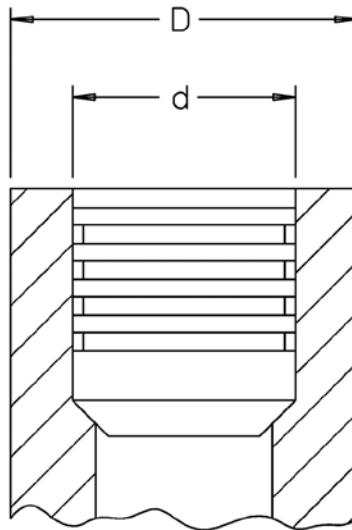
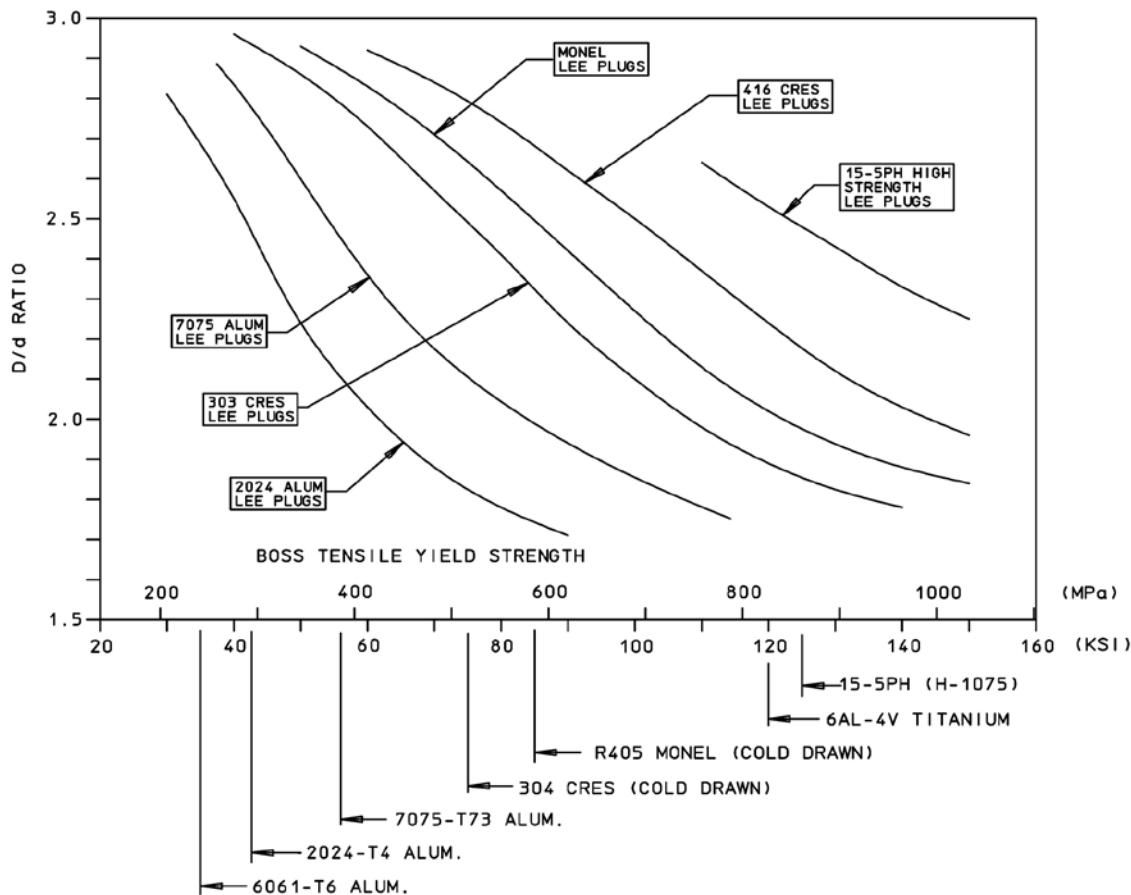
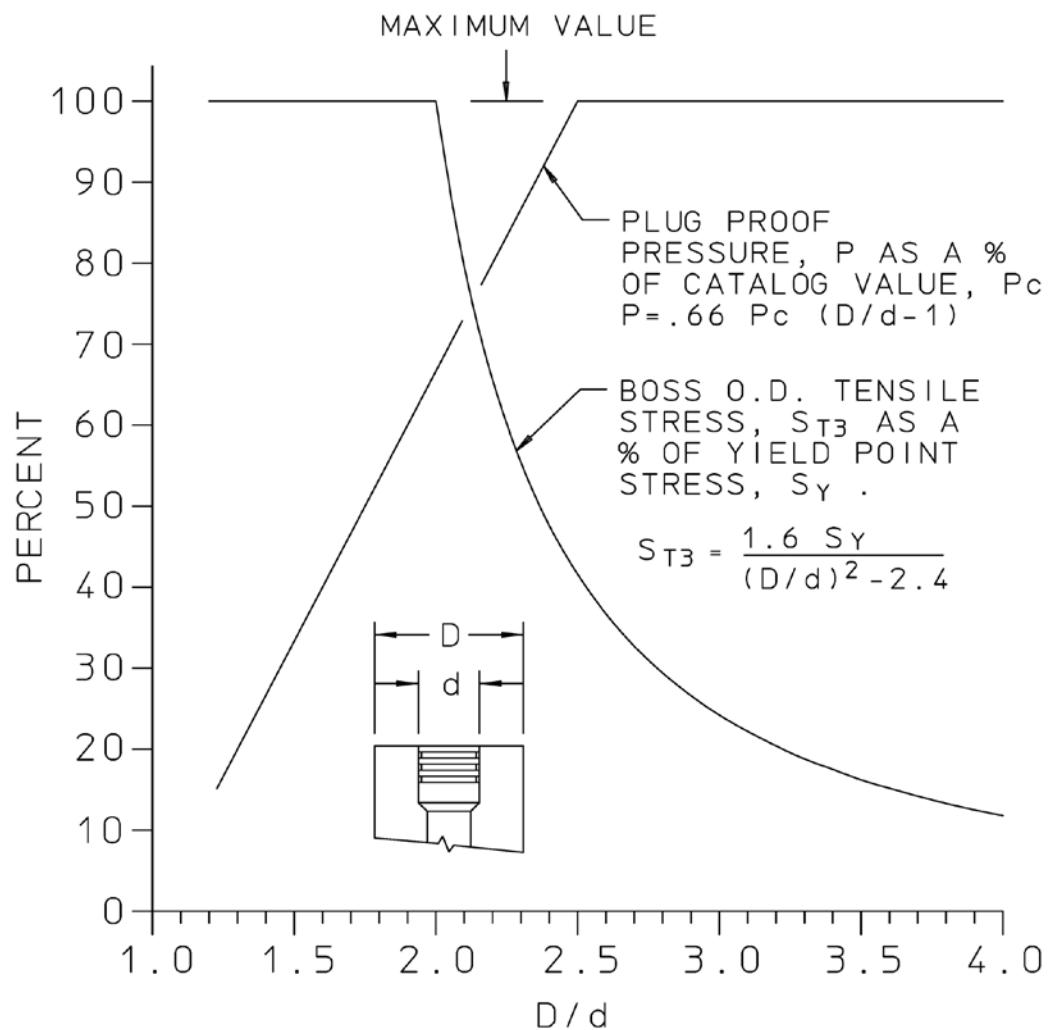

FIGURE 1
FIGURE 2
FIGURE 3
The amount of material surrounding the plugged hole is very important in its effects on plug performance, and therefore must be taken into account. When installing a Lee Plug into a boss of similar material to that of the plug, at least 2.5 times the plug outside diameter (d) should be allowed as a mounting boss diameter (D) to obtain the proof pressures tabulated in Appendix B (see Figure 1 on Sheet 9). The graph in Figure 2 on Sheet 9 represents the various recommended D/d ratios for Lee Plugs in dissimilar boss materials. Figure 3 on Sheet 10 is a reference graph used to estimate the percentage of proof pressure for varying D/d ratios. **Installation of plugs into boss materials that have a D/d of less than that recommended in Figures 2 or 3 should be substantiated by testing. During testing the expected conditions should be duplicated.**
The boss stresses, both tangential tensile and the radial compressive, vary throughout the boss. The radial stress reaches a maximum at the hole I.D. and drops to zero at the O.D. of the boss. The tangential stress (assuming a plastic/elastic situation) is low at the boss's I.D., reaches its maximum at the plastic/elastic interface, and drops to some intermediate value at the O.D. of the boss. Figure 3 on Sheet 10 presents a plot of boss O.D. tangential tensile stress and plug proof pressure versus boss/plug diameter ratio for plug and boss materials with similar mechanical properties and having Class III fits. A D/d ratio of 2.5 is the minimum recommended by The Lee Company for cases in which the plug and boss are of similar materials. When a Lee Plug is installed in a boss material of dissimilar mechanical properties, the catalog proof pressure of the plug will be maintained by observing the D/d ratios shown in Figure 2 on Sheet 9 and the stress on the O.D. of the boss will be below 40% of the tensile yield strength of the boss material. In most cases, the factor limiting the boss diameter will be the proof pressure requirements and not the stresses. Figures 2 and 3 pertain to round bosses only.